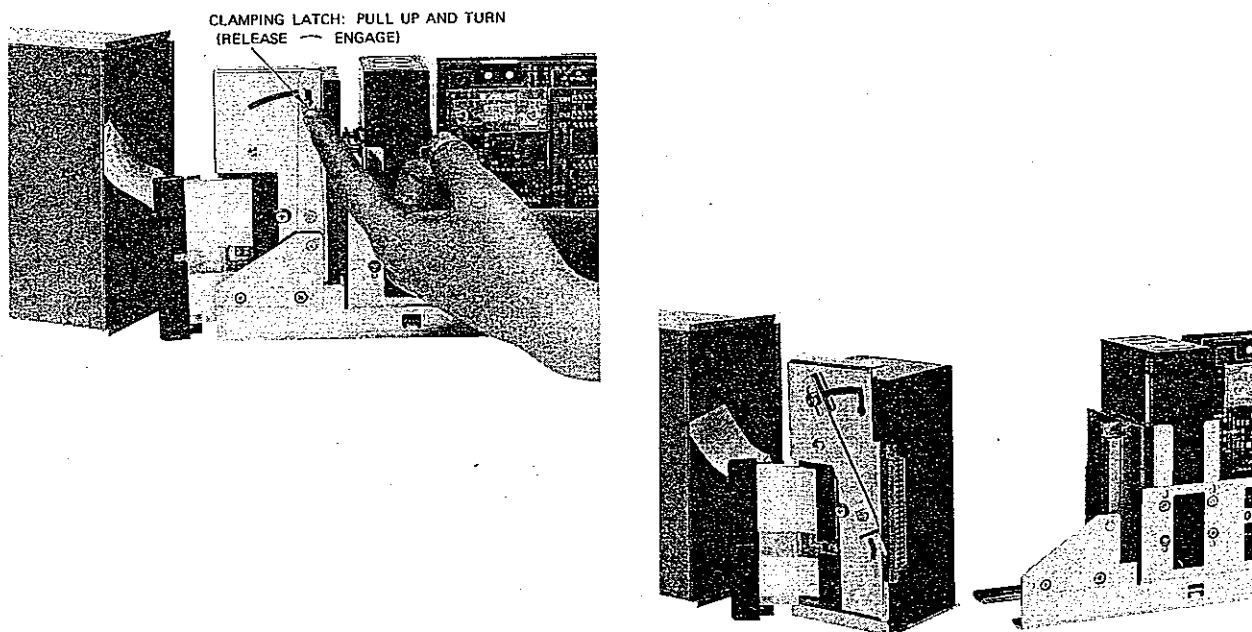

Figure 3.6 Installation and removal of standby manual unit
(2) Operating Procedure when Abnormal State is Caused
- ① When an abnormal state is detected, the instrument is automatically switched into the standby mode and it delivers the preset output value. The CPU. F lamp on the front panel of the instrument indicates that the operation has been changed to the standby mode.
- ② Pull out the KMM main unit, pushing upward the bracket at the front bottom of the instrument. The main unit will stop at a half-way position as it is caught by the latch. Release the latch and pull out the KMM main unit.
- ③ For repair or replacement of the KMM main unit, set the STANDBY/NORMAL selector switch in the STANDBY state, release the clamping latch of the standby manual unit, and remove the standby manual unit from the KMM main unit. The standby manual unit remains in the case. (Figure 3.6)
- ④ Face to the front the control section of the standby manual unit. The standby manual can be installed with it front to this side into the case.